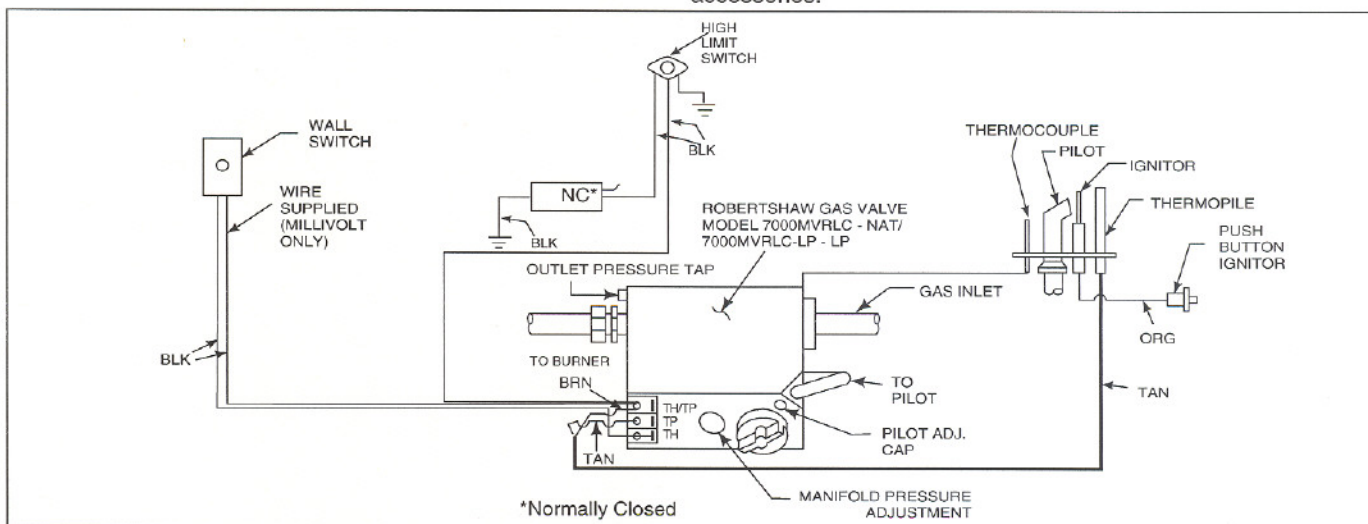

Figure 20
diagram is shown in Figure 20. If you extend beyond the wall switch wires provided, you must not wire on extension nuts, but replace the existing wires with desired length. **NOTE:** extended lengths of wire will reduce millivolt reading and may cause unit shutdowns.
2. Optional Accessories Requirements. Optional accessories may be added now or at a later date, however, wiring should be done now to avoid significant wall reconstruction later if accessories are added. The remote control (RC4) requires a separate 110V power supply directly to the appliance junction box, as shown in Figure 20. In line with this junction box, you must have an on/off switch or a BC10. Wiring diagrams are provided with all accessories.